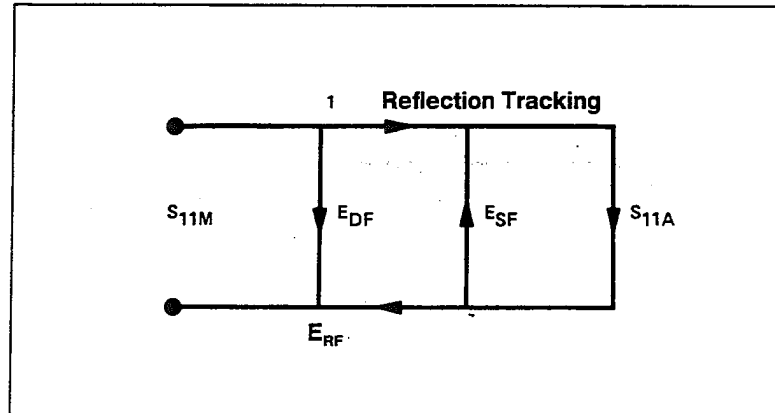

Figure 7-53. Reflection Tracking ERF
**Reflection tracking error.** Reflection tracking error is caused by variations in magnitude and phase between the test and reference signal paths. These are due mainly to imperfectly matched samplers and differences in length and loss between incident and test signal paths. The vector sum of these variations is modeled by the reflection tracking error, ERF (Figure 7-53).